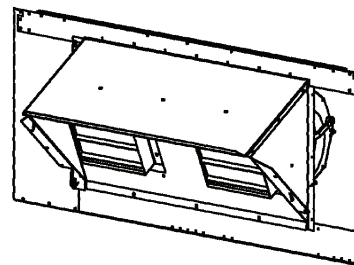

Fig. 14 — Assembly in Operating Position
6. Tilt the assembly out of the unit and into final operating position. See Fig. 14 for proper positioning of the assembly.